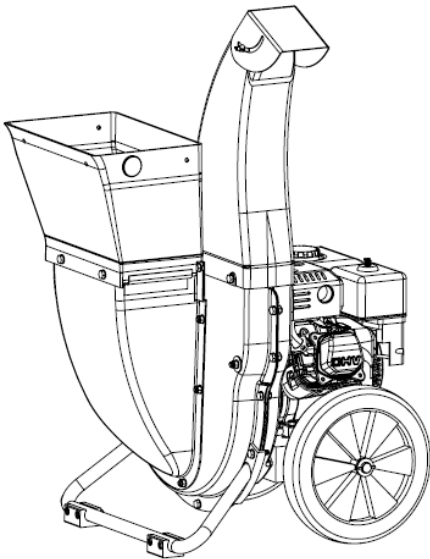

Figure 4
7. Attaching the lower leaf funnel section. (Figure 4)